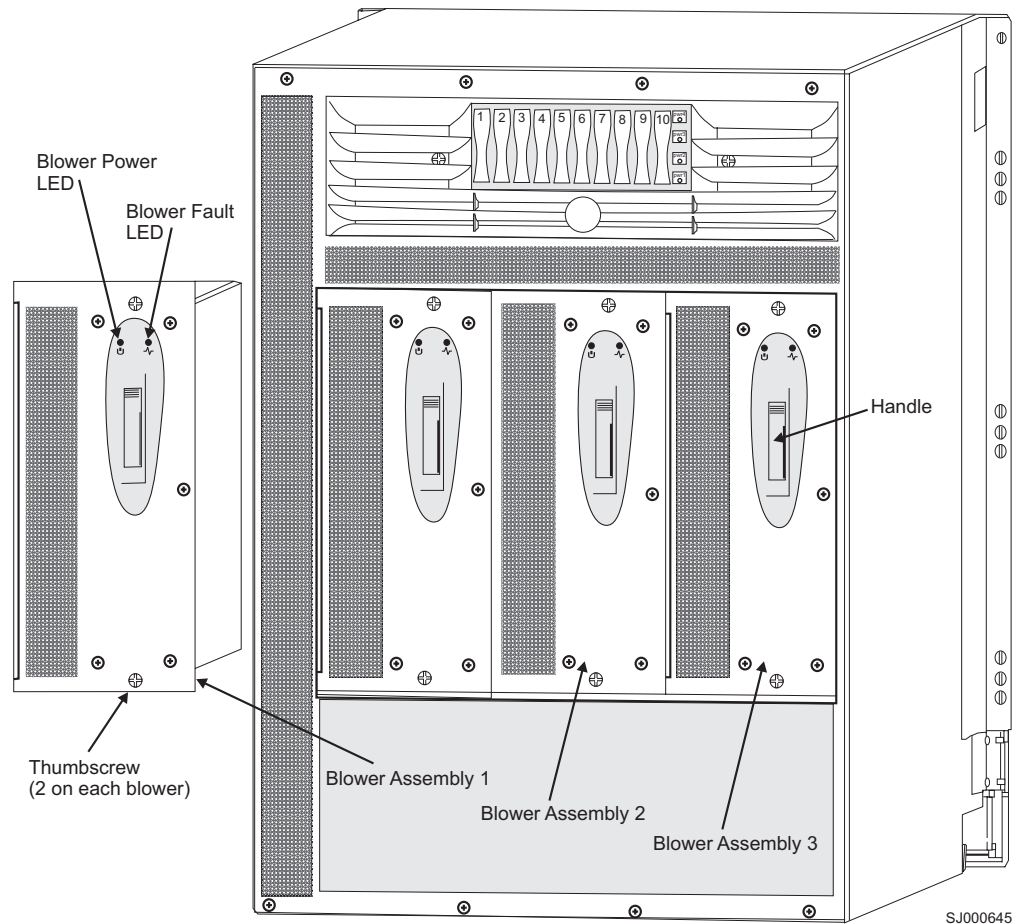

Figure 41. Blower assembly side of the 2109 Model M12 shown with one blower assembly uninstalled
1. Before you remove the blower assembly, verify that the other two blower assemblies are functioning correctly. The blower assembly power LED should be steady green, and the fault LEDs should not be lit (see Figure 41 on page 79 for LED locations). For information about how to check the status of the blower assembly by using Telnet, see the *Brocade Fabric OS Reference*.
- a. Use the screwdriver to loosen the thumbscrews at the top and bottom of the blower assembly. See Figure 41 on page 79.
1. Orient the blower assembly. See Figure 41 on page 79.